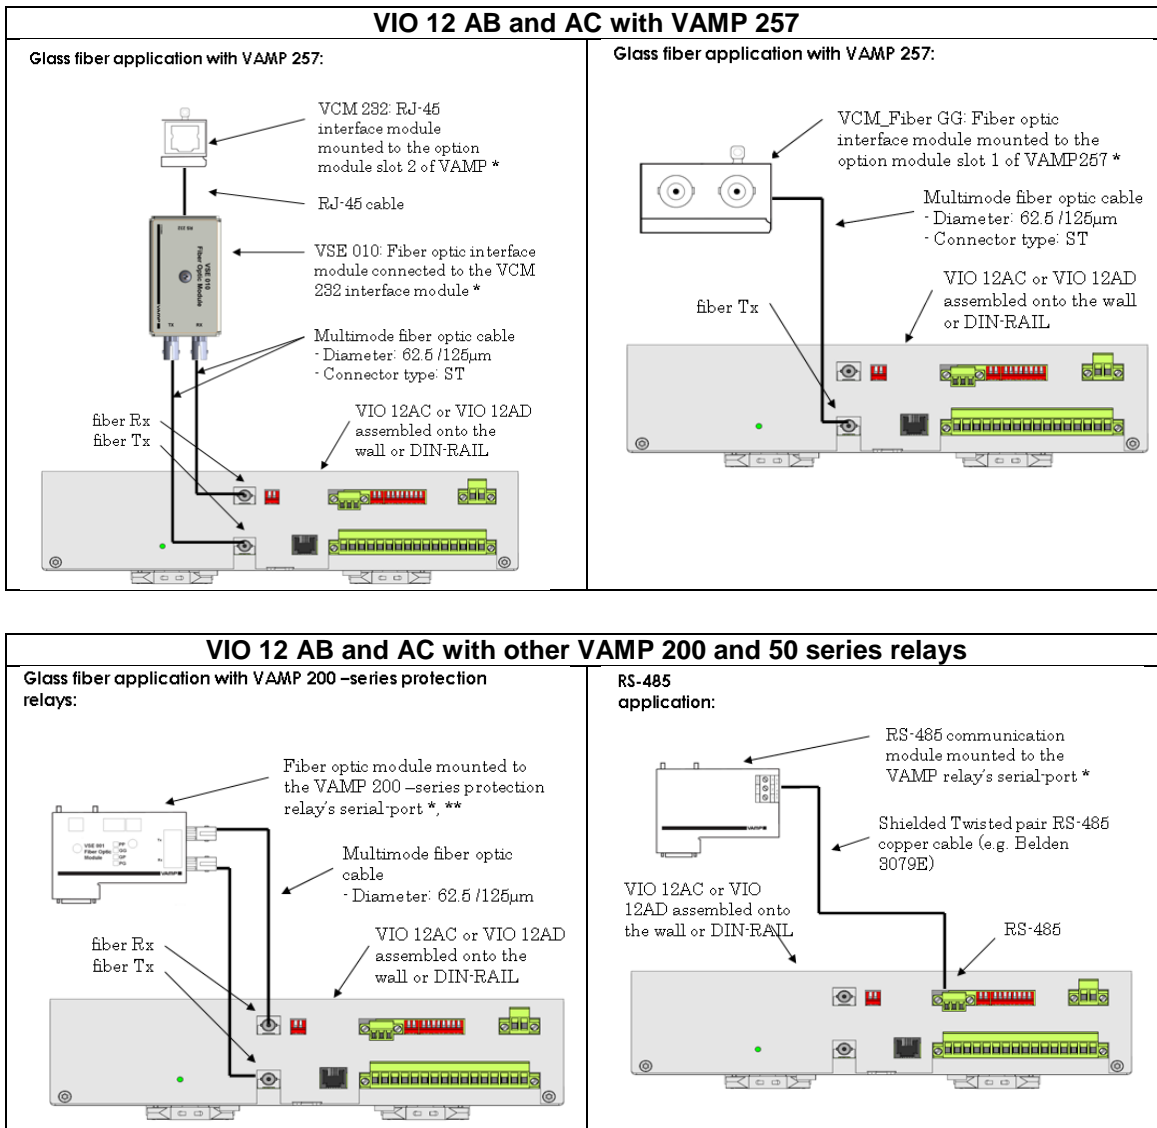

Figure 2. The connection.
2. Make necessary connections according to your application presented in the figure 2.